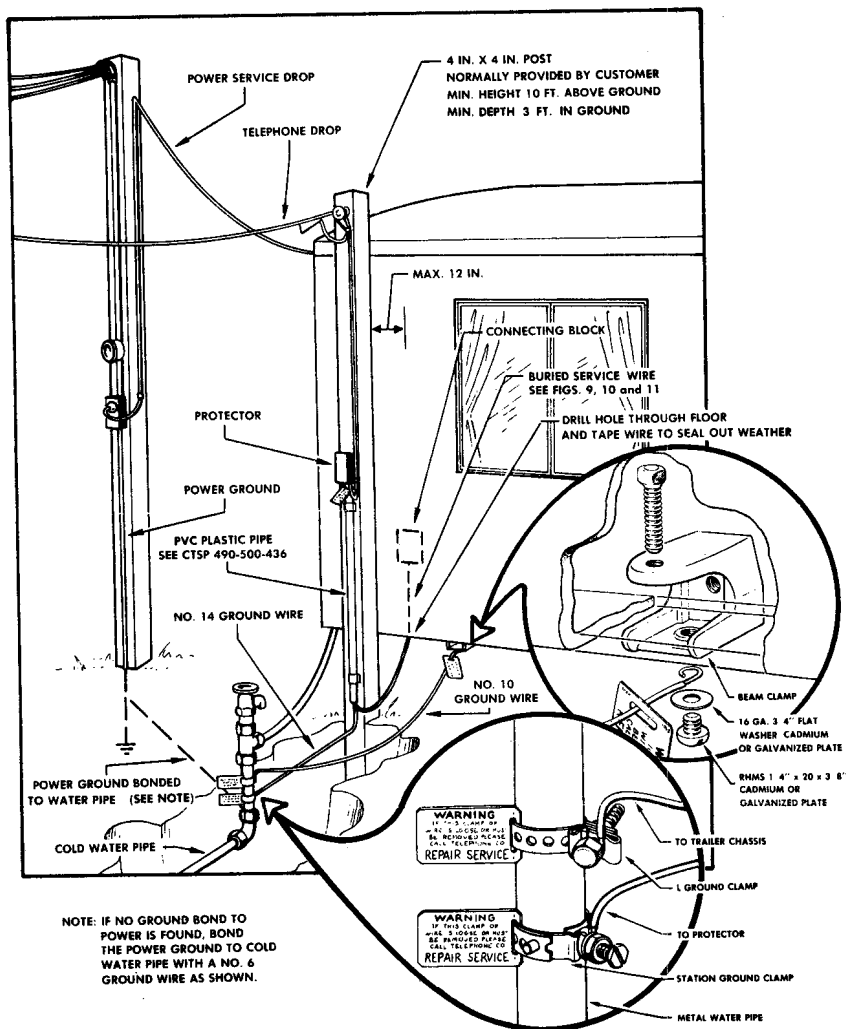

FIGURE 1. Typical Installation—Aerial Distribution Water Pipe Ground
a. For **aerial installations**, the pole should be 4 inches by 4 inches, and extend a minimum of 10 feet above the ground. See Figure 1. The base of the pole (or post) should be set into the ground a minimum of 3 feet, as shown in Figure 1. Do not attach drop wire spans which cross over public thoroughfares to a customer's pole. For instructions on clearances, refer to the CTS 490-060 series of practices.
5.01 See CTSP 475-500-410 for grounding and bonding procedures and preferred ground choice. After installing the protector, connect a No. 14 ground wire from the protector to the grounding medium. See Figures 1 through 4. **It is particularly important to have the power and telephone grounds bonded together. If separate ground rods are used for any reason, bond them together.**
6.01 Use a suitable size beam clamp to bond the mobile home chassis to the station ground. Attach the clamp to a flange on the structural member of the mobile home chassis (see Figures 1 through 4). Attach the No. 10 ground wire to the beam clamp with a 1/4-20 x 3/8 inch round head machine screw (zinc or cadmium plated) and a suitable size zinc or cadmium plated flat washer. The ground wire should be installed in a manner to provide the best possible mechanical protection.